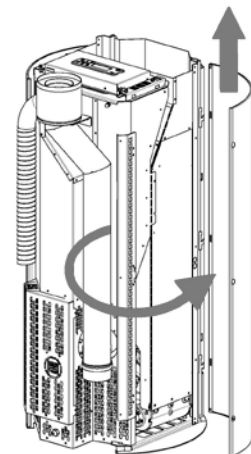

Fig. 29 - Removing the side panel
- Open the side and release it from the teeth (see **Fig. 29**).